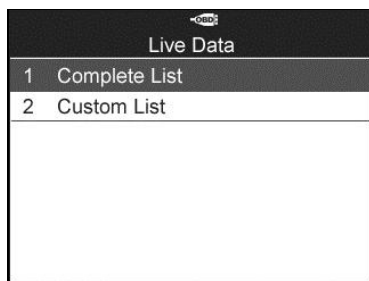

Figure 6.9
- 1) To view complete set of data, use the **UP/DOWN** scroll button to select **Complete List** from **Live Data** menu and press the **Y** button (Figure 6.9).
- 1) To view customized PID data, use the **UP/DOWN** scroll button to select **Custom List** from **Live Data** menu and press the **Y** button (Figure 6.9).